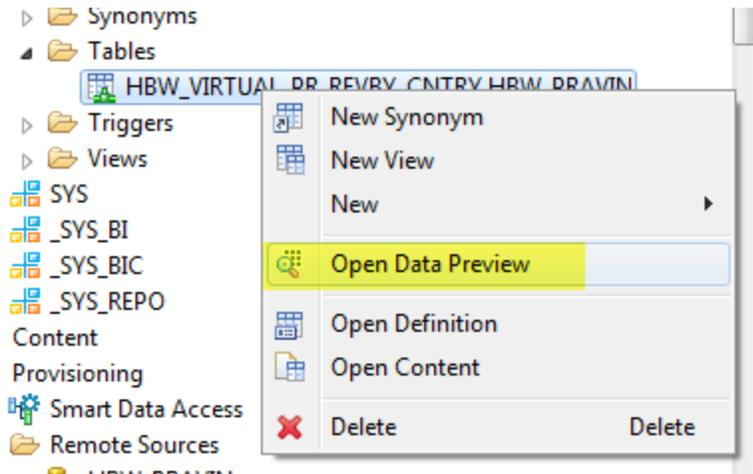
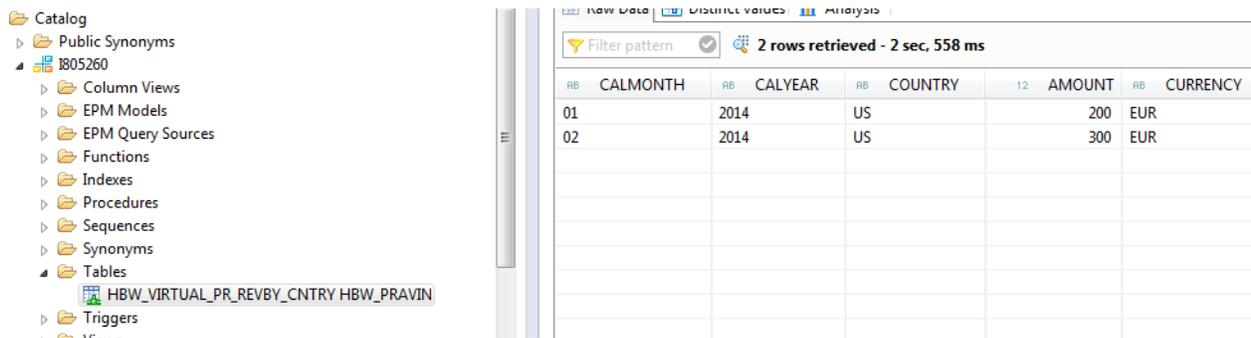

Figure 11 – Select data preview
Figure 12 – Open data preview
1.6 **Preview the virtual table:** Click on the virtual table described in the step above and right mouse click to select data preview as shown in figure 11. The data in the remote table is displayed as shown in Figure 12.